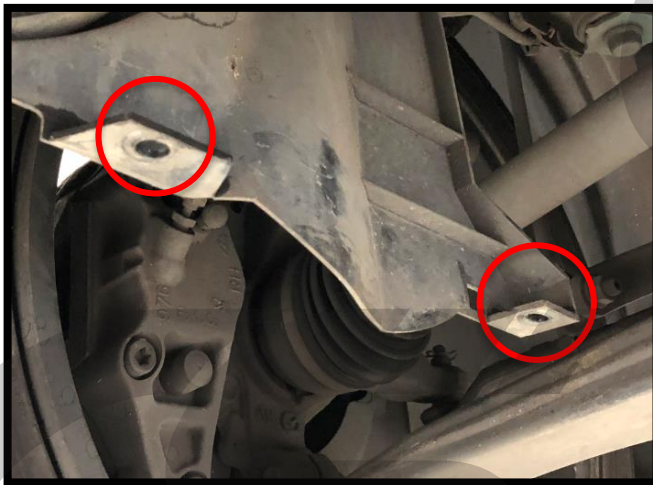
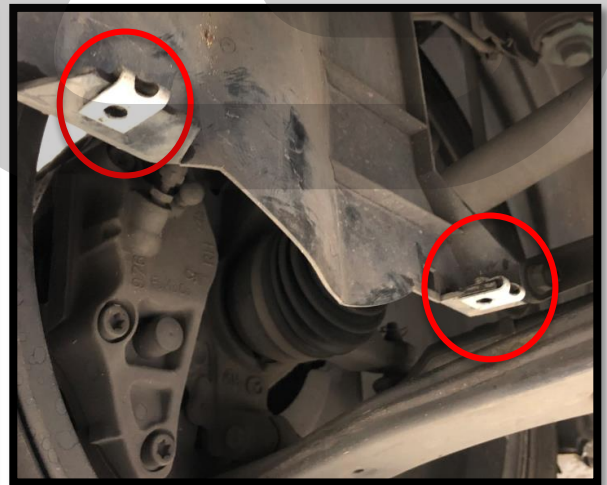

Figure 3b
Figure 3c
- b) Transfer the OEM U-nuts to the OEM plastic side splash shields. **Figure 3b** shows to correct locations. **Figure 3c** shows the OEM U-nuts installed.